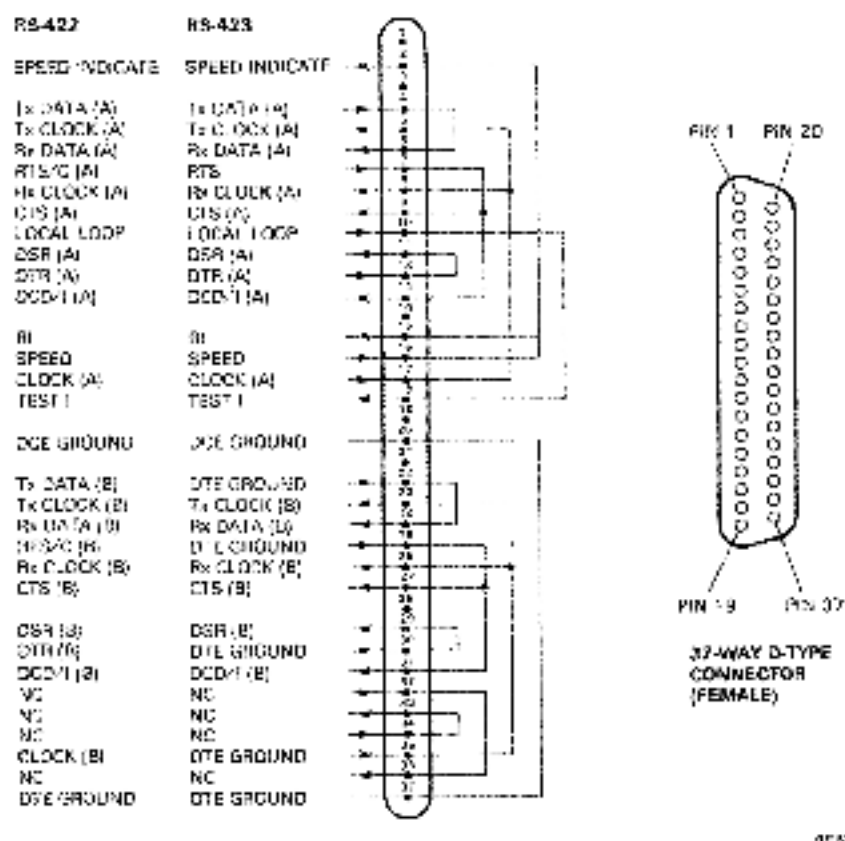

Figure 2-13 H3198 Loopback Connector
2.9.3.6 H3198 37-Way Loopback Connector (RS-422/423) - This connector is used to test the RS-422 and RS-423 interfaces of the sync channel and the RS-422 and RS-423 adapter cables. It is a 37-way D-type connector, and is wired as shown in Figure 2-13.